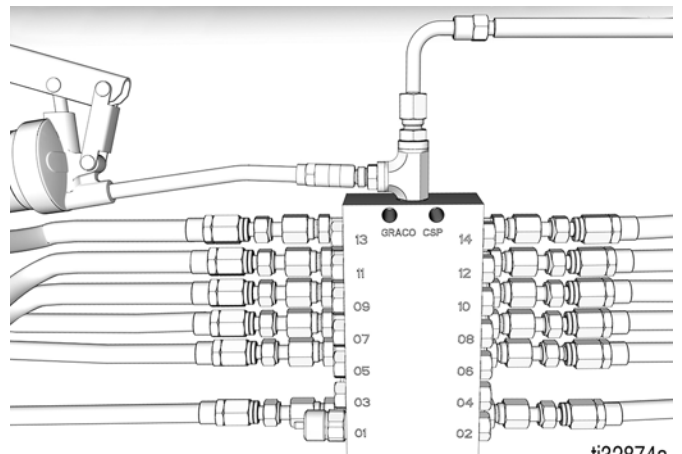

FIG. 35
- Connect a grease gun to the grease zerk on the CSP valves to fill them with grease (FIG. 35).